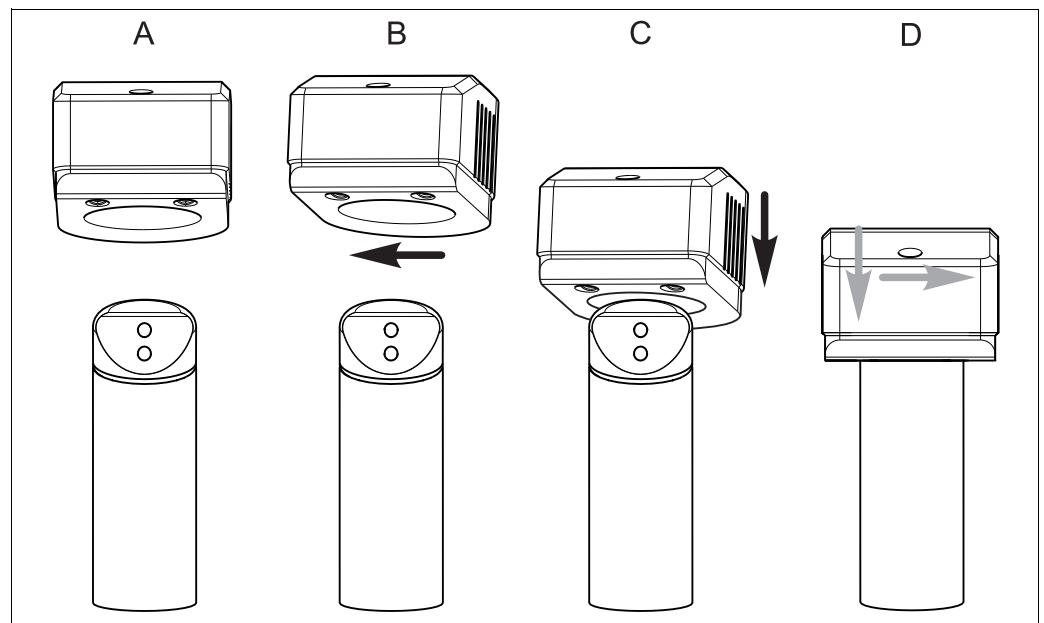

Fig. 34: Fitting the solid state reference on the sensor
3. With the solid state reference turned slightly (\rightarrow Fig. 34, B), fit it gently on the sensor (C) and
4. then allow the solid state reference to slide into the final position (D).